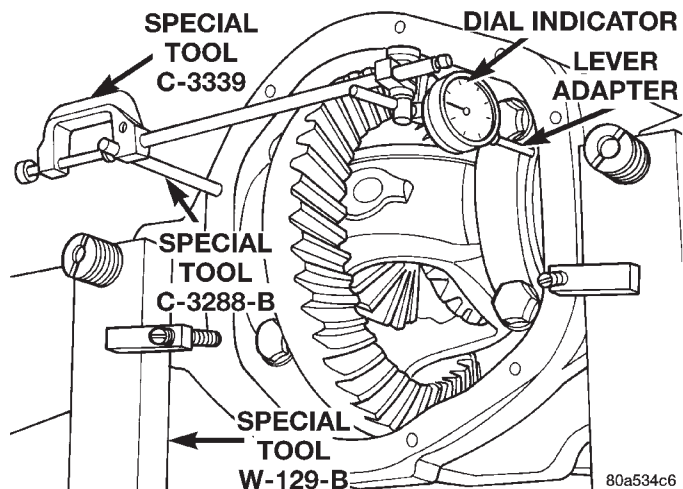

Fig. 26 Install Dial Indicator
(8) Install a Guide Pin C-3288-B at the left side of the differential housing. Attach Dial Indicator C-3339 to guide pin. Load the lever adapter against the opposite side of the housing (Fig. 26) and zero the indicator.
(2) Install a Guide Pin C-3288-B at the left side of the differential housing. Attach Dial Indicator C-3339 to guide pin. Load the lever adapter against the opposite side of the housing (Fig. 26) and zero the indicator.